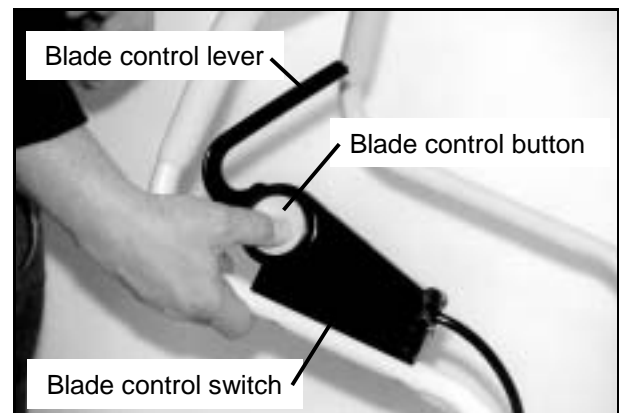
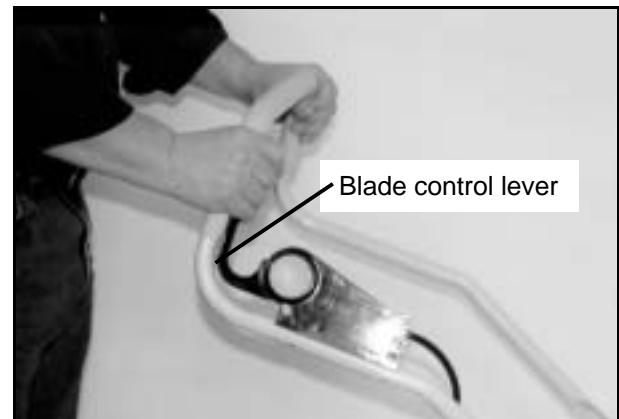

Figure 8
Figure 9
2. Depress the button on the blade control switch (*Figure 8*) and pull the blade control lever firmly to the handlebar (*Figure 9*). Release the push button.
1. To stop, release the blade control lever (*Figure 8*).